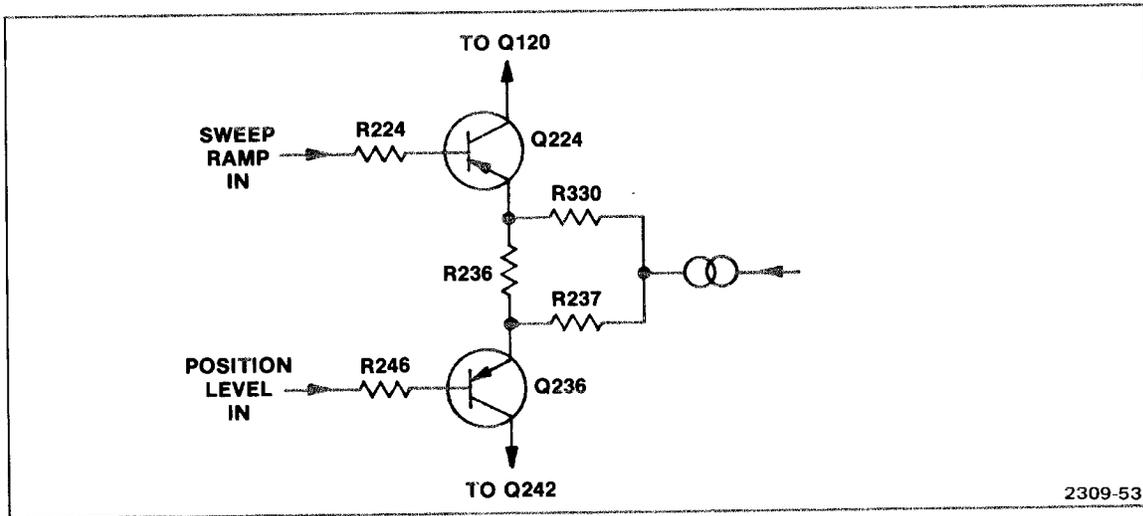

Fig. 5-4a. Simplified schematic of the X1 horizontal preamplifier.
**Input Differential Amplifier.** The input differential amplifier consists of two differential amplifiers - one for X1 operation (MAG off) and one for X10 MAG operation. Q320, Q220, Q324 and the associated components comprise a constant-current switching circuit. When MAG is off, MAG (center of schematic 4) is high and Q320 is off. Q220 is off and Q324 is on, supplying current to Q224 and Q236 (see Fig. 5-4a). The sweep signal from the ramp generator drives the base of Q224. DC positioning current is fed to the base of Q236. R236, R237 and R330 set the stage gain. The differential output signal from the collectors of Q226 and Q324 drive the emitters of Q120 and Q242 in a cascode configuration. Since Q220 is off, Q222 and Q234 are also off.